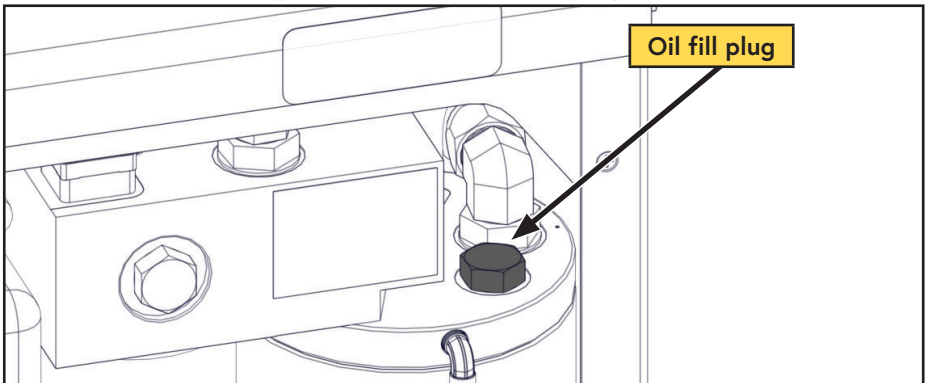

Figure 29 — Add compressor oil
- ☐ Remove the oil fill plug from the top of the AOST (Figure 29).